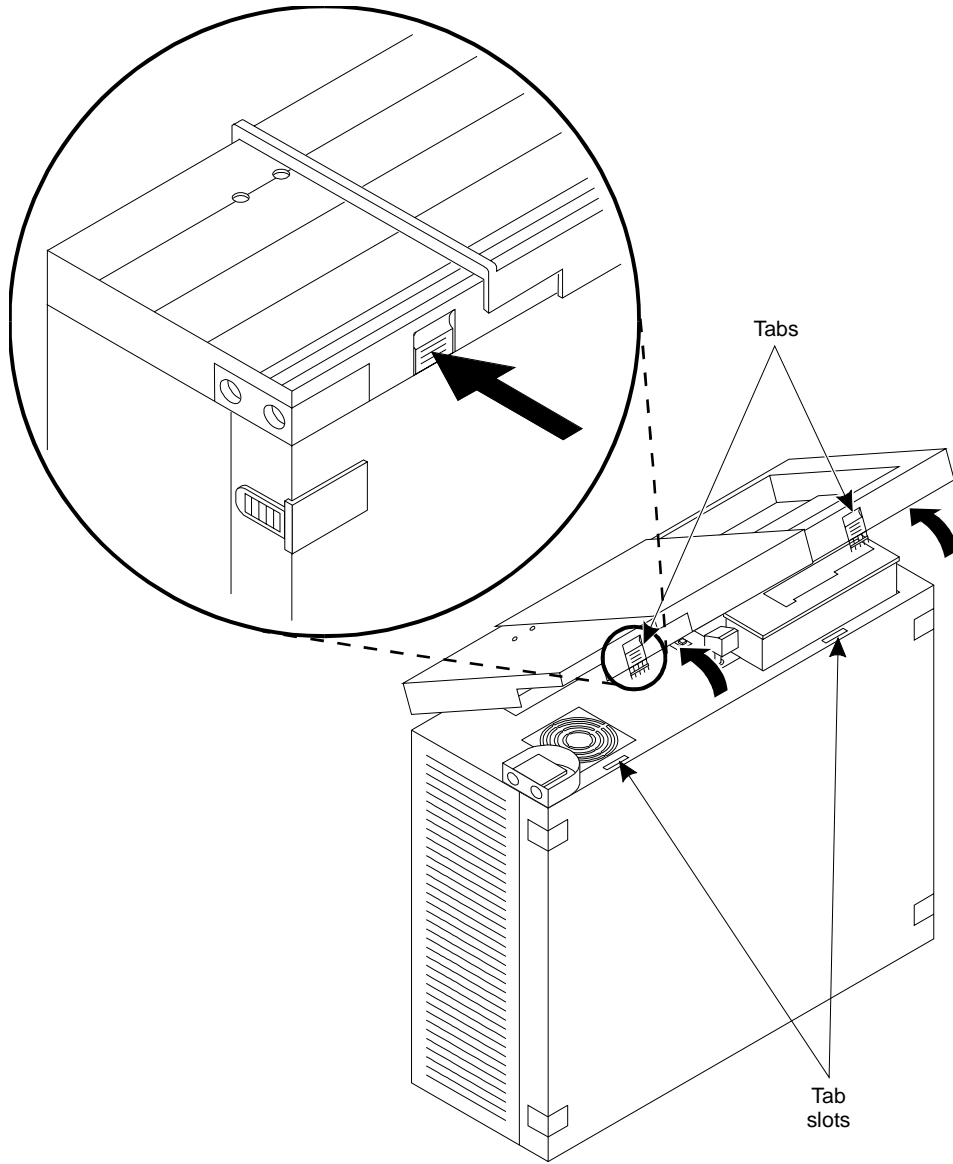

Figure 2-9. Removing the MAP/5 Front Panel
You must remove the front panel before removing the top cover for access to the inside of the system. See Figure 2-9 and follow the steps below:
5. Slide the unit over the edge of the table toward you so that you can access the release tabs. Figure 2-9 shows the location of these tabs.
6. Push inward and upward on the two front panel latches to release the bottom edge of the front panel. See Figure 2-9.